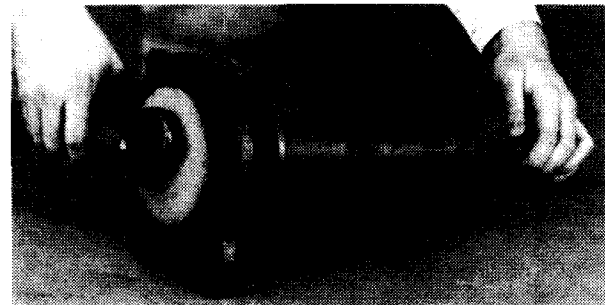

Fig. 3
5. Remove impeller by holding pump shaft with water pump pliers and unscrewing impeller, left hand counterclockwise facing the impeller to remove. (Fig. 3.) Impeller can also be removed by prying out motor shaft end cap. Place screwdriver in slot in end of shaft and hold to prevent shaft rotation. Unscrew impeller counterclockwise. On A.O. Smith motors remove motor end cover and hold shaft with $\frac{7}{16}$ " open end wrench.
4. Hold pump shaft with pliers and unscrew impeller as shown. (Fig. 3.)